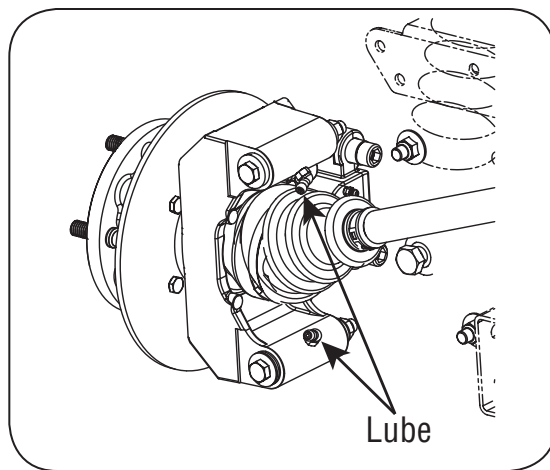

Figure 12
1. Lubricate two grease fittings on each knuckle with 2 or 3 shots of grease every 50 hours or after each use if consistently running unit in water deeper than axle. See Figure 12.